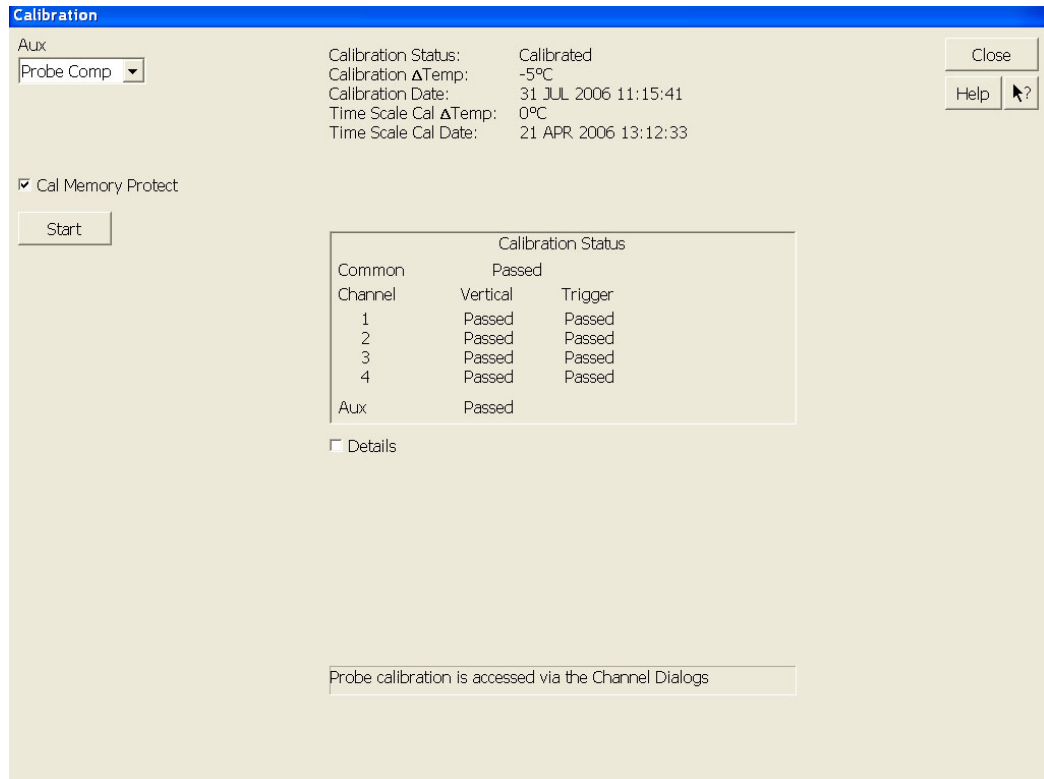

Figure 55 Oscilloscope Calibration Window
- 4 Referring to **Figure 55** below, perform the following steps to start the calibration: